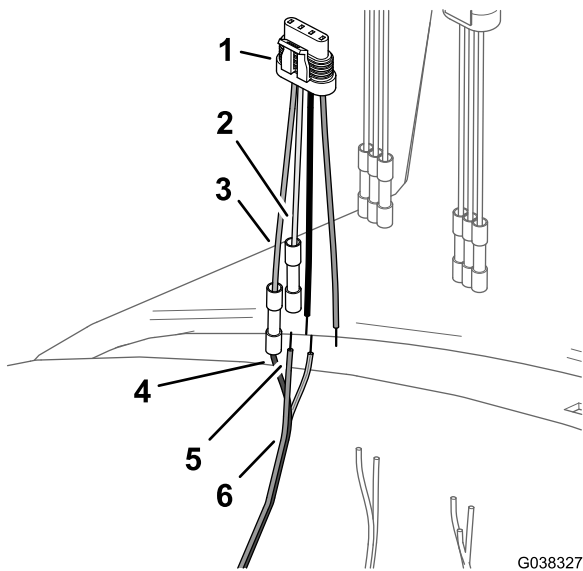

Figure 39
3. Align the brown wire of the DIN harness with the gray wire of the 4-pin adapter for the rate valve (Figure 39); refer to the wire table for the rate valve.
6. Insert the blue wire of the DIN harness and butt-splice connector on the green wire of the 4-pin adapter for the rate valve (Figure 39).